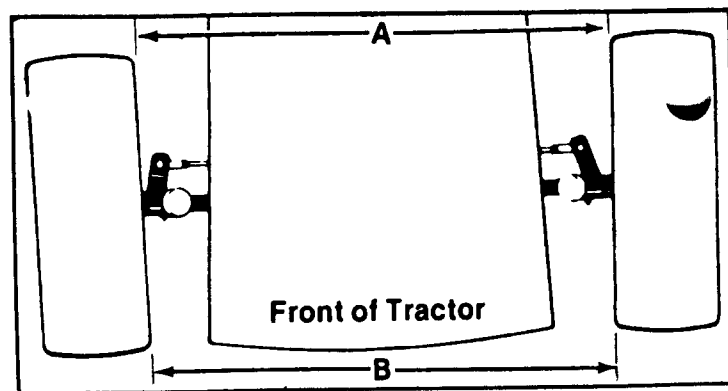

FIGURE 22. TOE-IN DIAGRAM
3. Adjust the tie rod assembly for correct toe-in. Dimension "B" should be approximately  $\frac{1}{8}$ " less than Dimension "A". See figure 22.